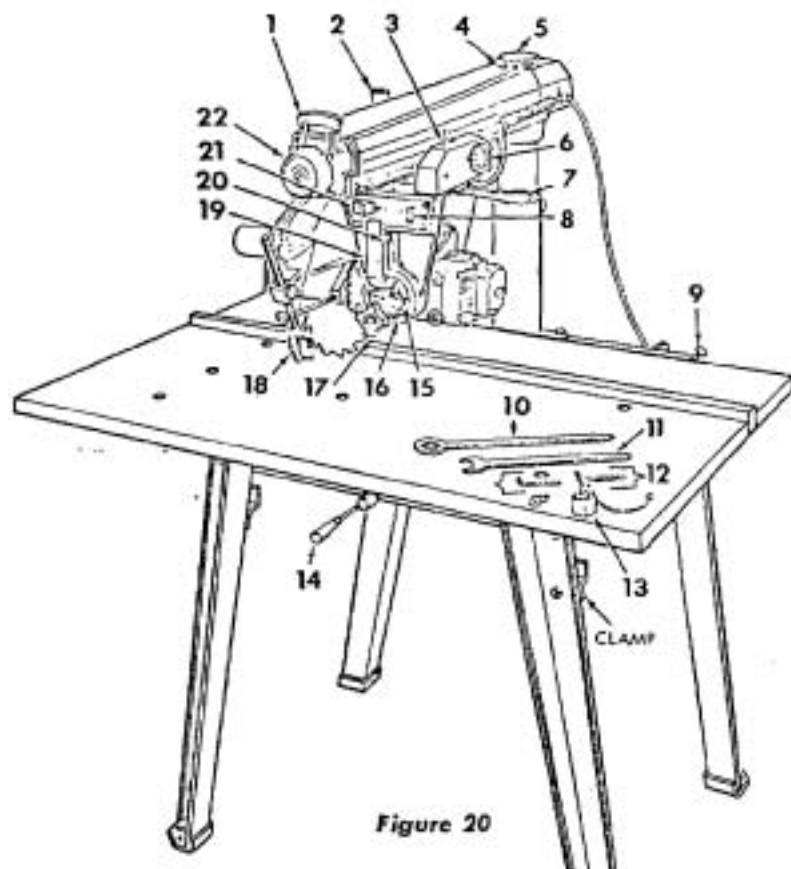

Figure 20
- Loosen the arm latch handle (22, figure 20) $1/4$ turn. Make sure the yoke clamp handle (7) and bevel lock knob (17) are tight.
- b. Turn the arm latch handle (22, figure 20) one-quarter turn **counterclockwise** but do not pull it out.
3. Loosen arm latch handle (22, figure 20) enough to obtain free movement of radial arm. Release arm latch lever (1, figure 20), and loosen carriage lock knob for easy movement of motor and carriage assembly during this operation. Move the motor and carriage assembly out to the end of radial arm and lower the saw blade until it just touches the table at point A, which is the front central position. (See figure 9.)
10. Insert the three table clamps (9, figure 20) and tighten them finger tight to secure all table boards.
- b. Loosen the yoke clamp handle (7, figure 20).
1. Locate the motor carriage assembly midway on radial arm and tighten carriage lock knob (6, figure 20).